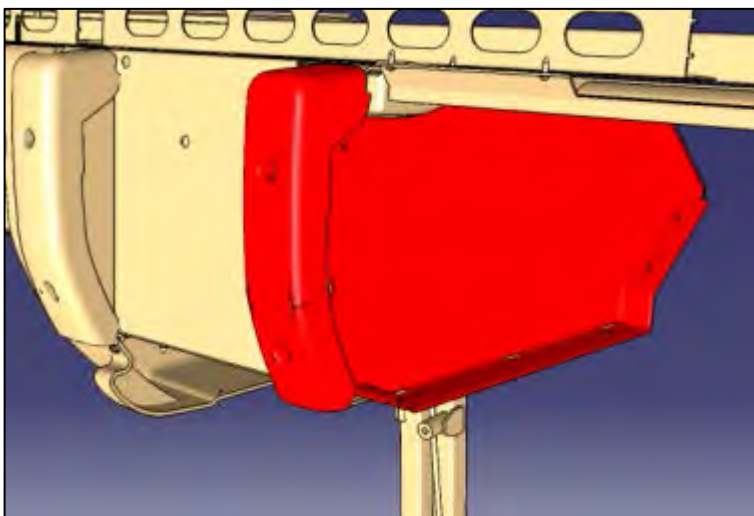

Figure 14
12. On the right side of the door, remove the capping trim and the parcel rack partition from the overhead parcel rack. Reserve hardware. (Figure 14)